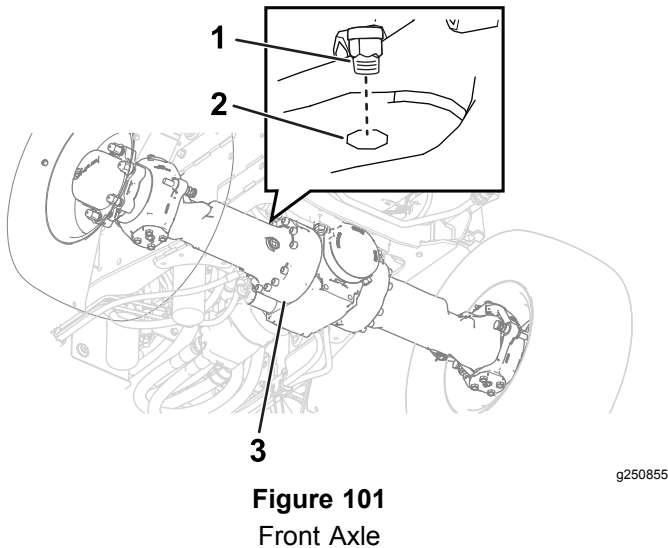
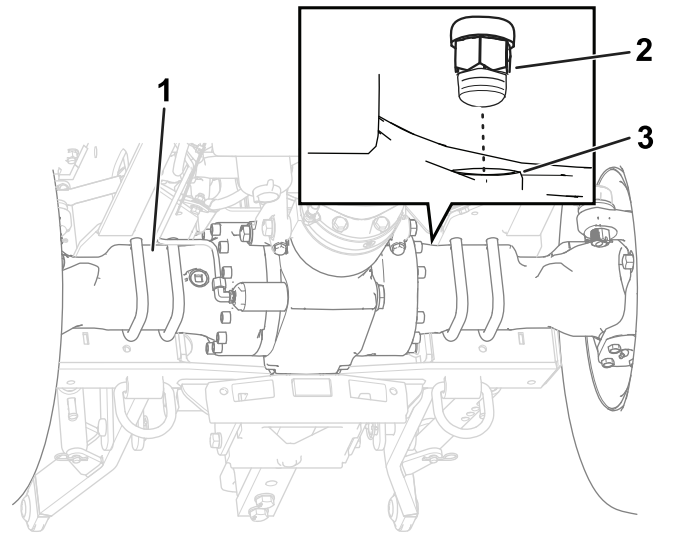

Figure 101
Figure 102
- Clean the area around the breathers with a cleaning solvent (Figure 101 and Figure 102).
- Remove the breathers from the front axle and rear axles (Figure 101 and Figure 102).
- Install the breathers into the front and rear axles (Figure 101 and Figure 102).